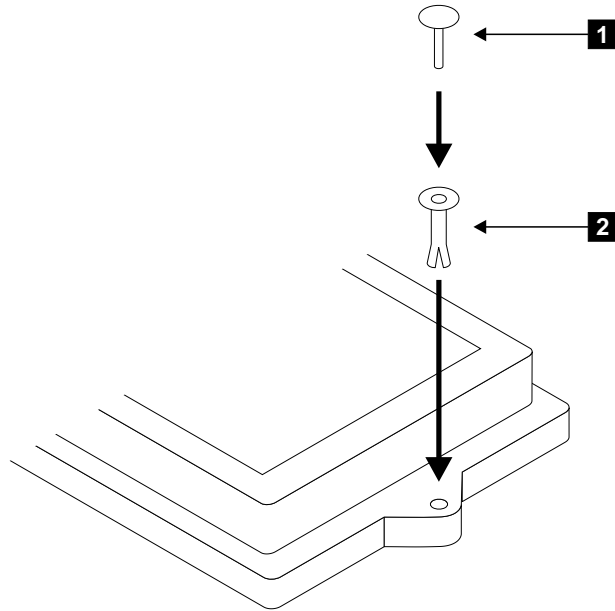

Figure 5. Installing the Collar and Pin of the Fast-Write Cache Card
4. Refer to Figure 5 on page 28.